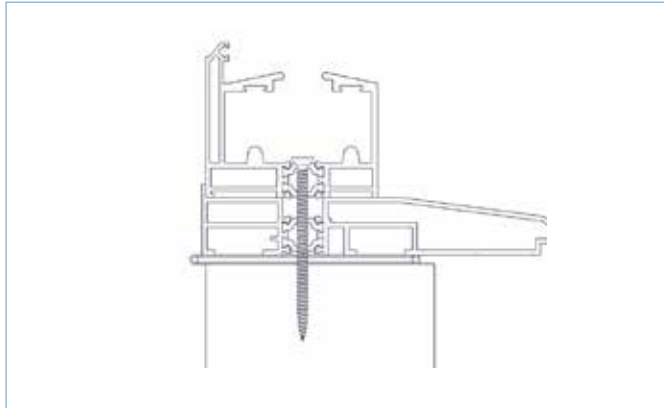

FIG 5A
- ▶ **5.1.** Fix the bottom track and cill as shown in FIG 5A. Position the fixings approximately 100mm in from each end of the track and one fixing every door width along the length. If there is no cill, fix the bottom track to the brick/ block below, making sure it is straight and remains level